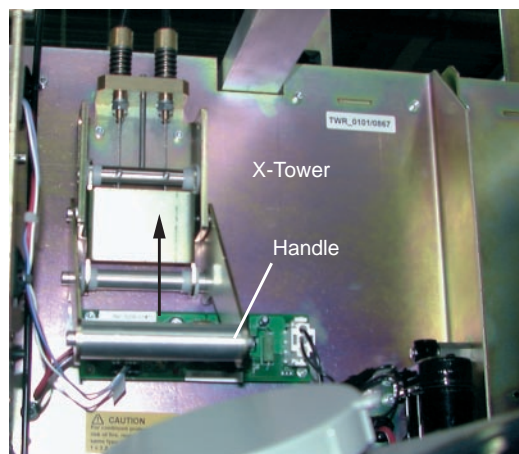

Figure 263. Latch between the X and Y Towers
3. Unlatch the X tower from the Y tower by pulling up on the handle located on the X tower, as shown in Figure 263.
16. Latch the X tower to the Y tower by pulling down on the latch handle. (See Figure 263 on page 292 for the location of the handle.)